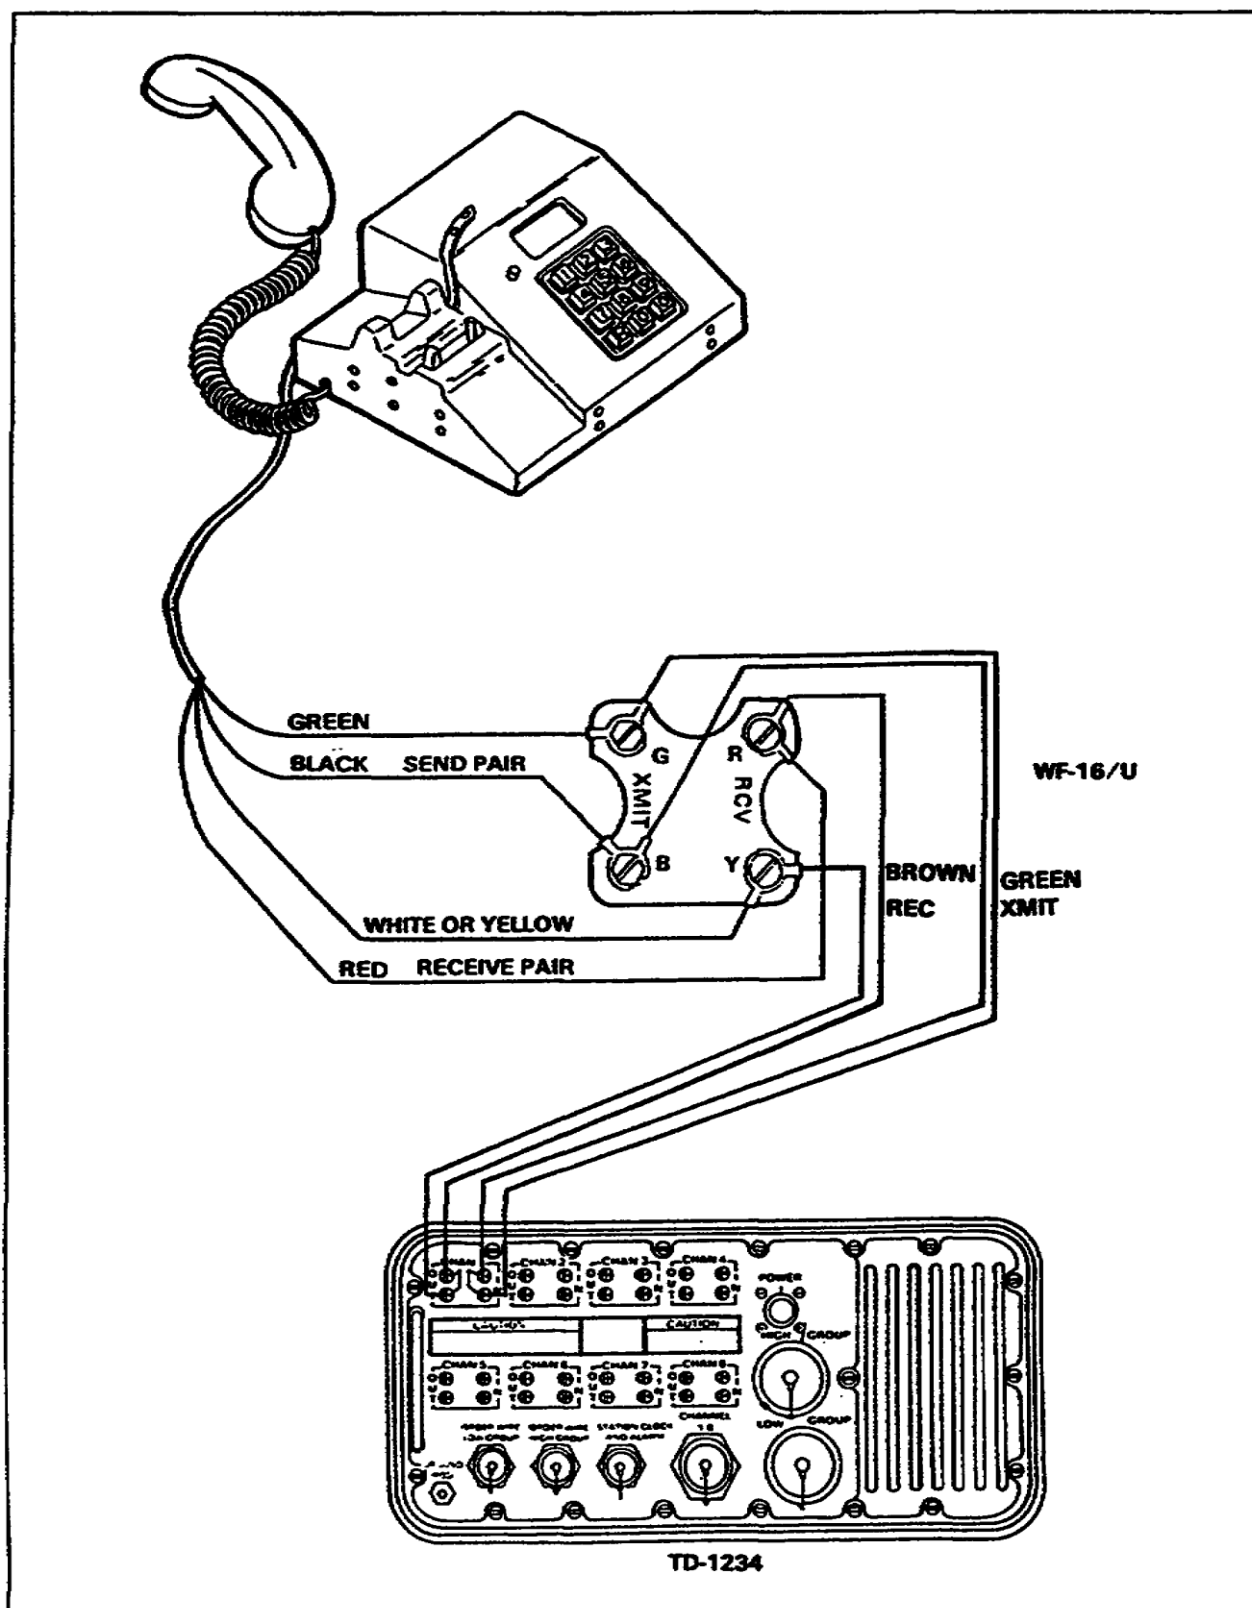

Figure 1-31. TA-341()/TT DGM installation.
i. When you connect the WF-16/U to the rear of the TD-1234/TT or the TD-1233/TT, the wires are reversed. Push in on the connector; place the end of the wire in the slot, be sure it is snugly in place. If you connected the wires to the OUT connector, then you must place the other end of those wires in the RECEIVE connectors on the telephone. Wires connected to the IN connectors must be connected to the TRANSMIT connectors on the telephone. Go around to the front of the TD-1234/TT, look at CCA in position A9 if you connected the wires to CHAN 1 and turn the switch on the top to the ON position. If no telephone is connected to a CHAN connector, the switch on the CCA must be in the OFF position (See Figures 1-31, 1-32, and 1-33.)